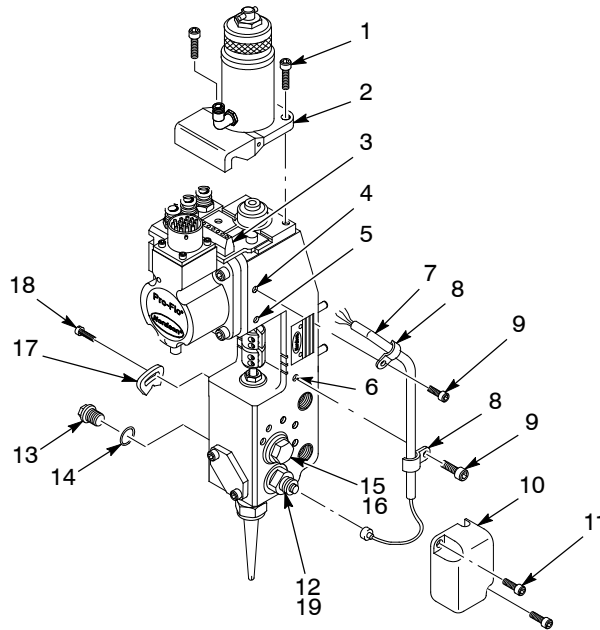

Figure 10 Replacing the Cordset
2. See Figure 10. Remove the screws (1) and remove the spring closure assembly (2).